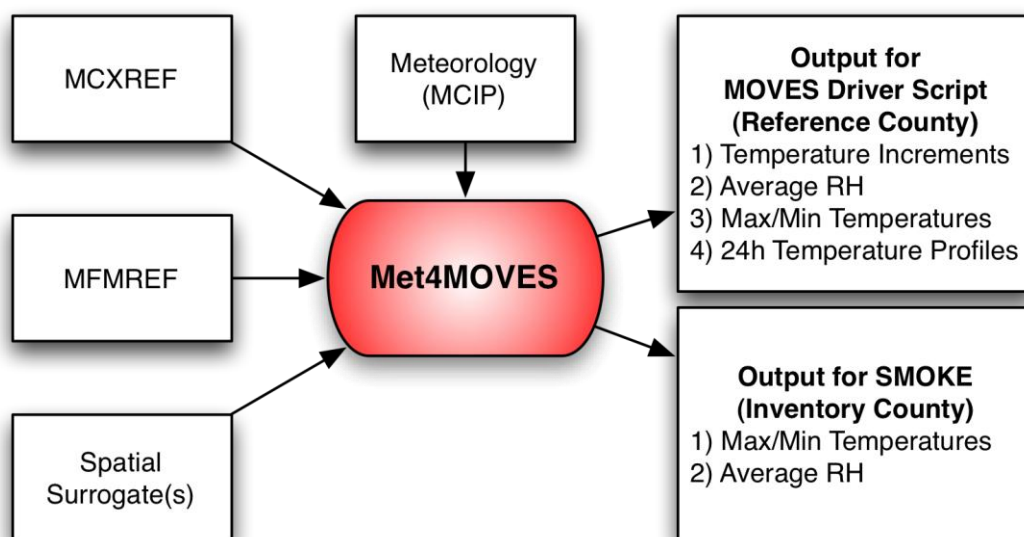

Figure 2. Flow diagram of Met4moves
Met4moves is a meteorological preprocessor that prepares temperature and relative humidity (RH) data for use by both MOVES and SMOKE (see Figure 2). Met4moves produces specific meteorological metrics for the reference county(s) for MOVES and additional meteorological metrics for all inventory counties in the county group for SMOKE. The meteorological metrics are specific to the emissions processes (RPD, RPV, or RPP); this is discussed in more detail below.